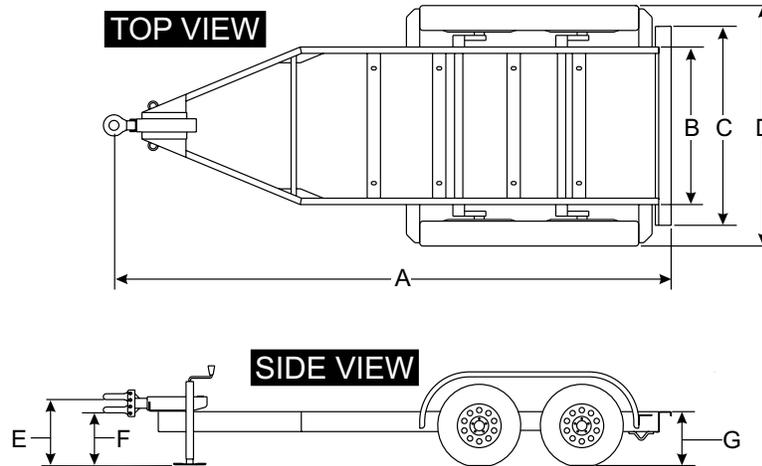

Figure 2. Trailer Dimensions
2. When grounding the generator (Figure 2) connect the ground cable between the lock washer and the nut on the generator and tighten the nut fully. Connect the other end of the ground cable to earth ground.